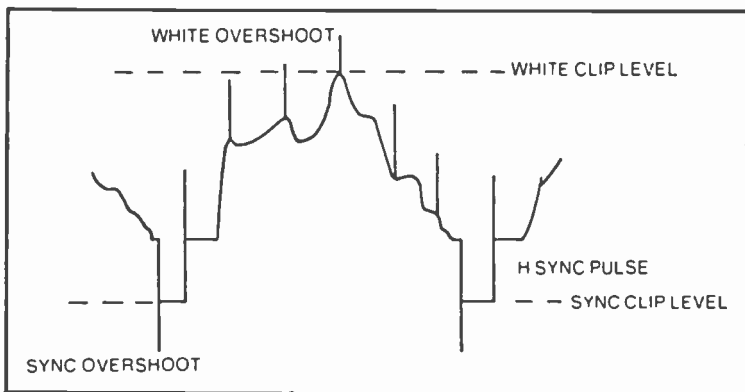

Fig. 16-12. White and sync overshoots.
- **Clip levels.** Before the AGC video signal is fed to the FM modulator it is preemphasised. This causes overshoot spikes on the high whites and the sync tips. See Fig. 16-12. These must be clipped at the correct level. It is a simple adjustment.